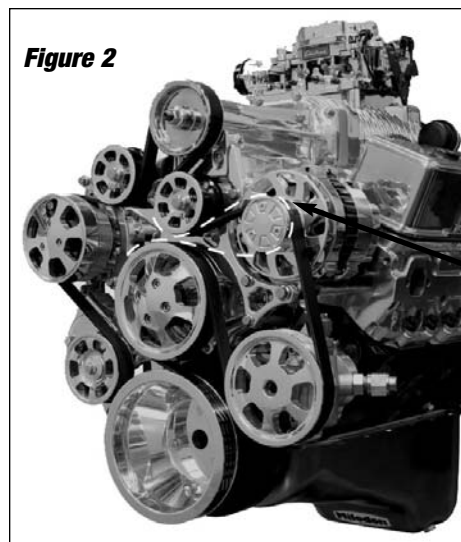

Figure 2
2. Install the Tru Trac Pulley System according to the instructions provided by Billet Specialties using the hardware supplied as specified. Refer to **Figure 2**, and the instructions supplied by Billet Specialties for the proper bridge bracket installation procedure. Please note that the bridge bracket in this kit has been modified to accommodate the supercharger but the installation procedure remains unchanged.